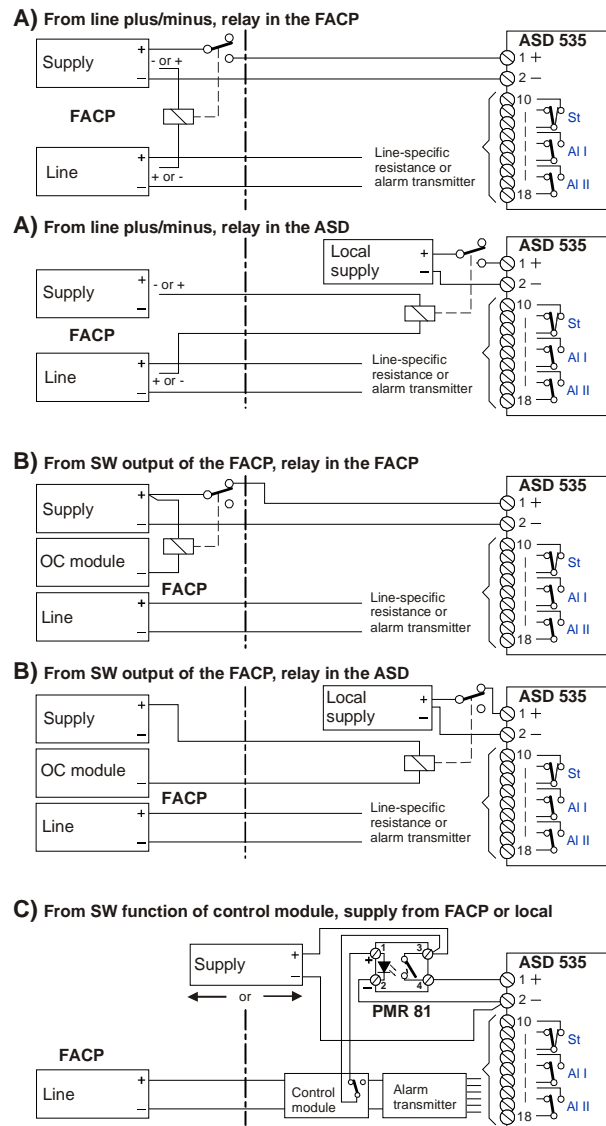

Fig. 22 Control via supply with relay
The auxiliary relay can be actuated in the following ways (see Fig. 22):
- The EMC protective elements at the input of the ASD electronics cause a brief current peak (5 A / 1 ms). When using auxiliary relays with a max. contact load of 1 A, this may lead to the relay contact sticking. For this reason auxiliary relays with a contact load of over **1 A** should **always** be used, e.g. PMR 81 semiconductor relay (see Fig. 22 C).